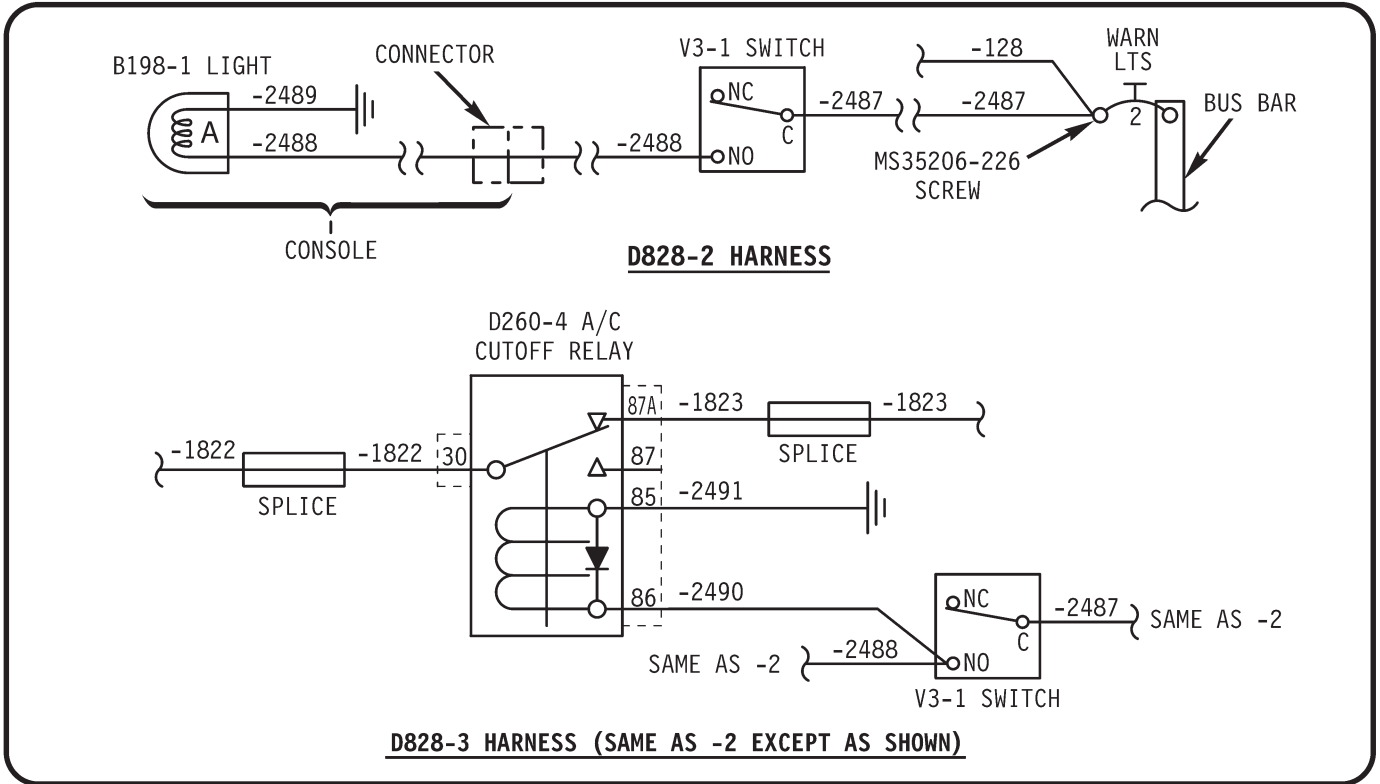

FIGURE 2
3. Refer to Figure 2. Disconnect D828-2 or -3 harness at connectors and set aside console portion.
6. **For helicopters with air conditioning:** Refer to Figures 2 and 3. Remove and retain hardware securing ground wires to C351-1 panel. Route D828-3 harness wires inboard thru hole in panel. Connect D828-3 harness's D260-6 connector to new D260-4 relay and install hardware securing relay to panel. Remove primer at new ground location and attach existing ground wires and D828-3 harness's -2491 (ground) wire to panel using retained hardware. Verify security.